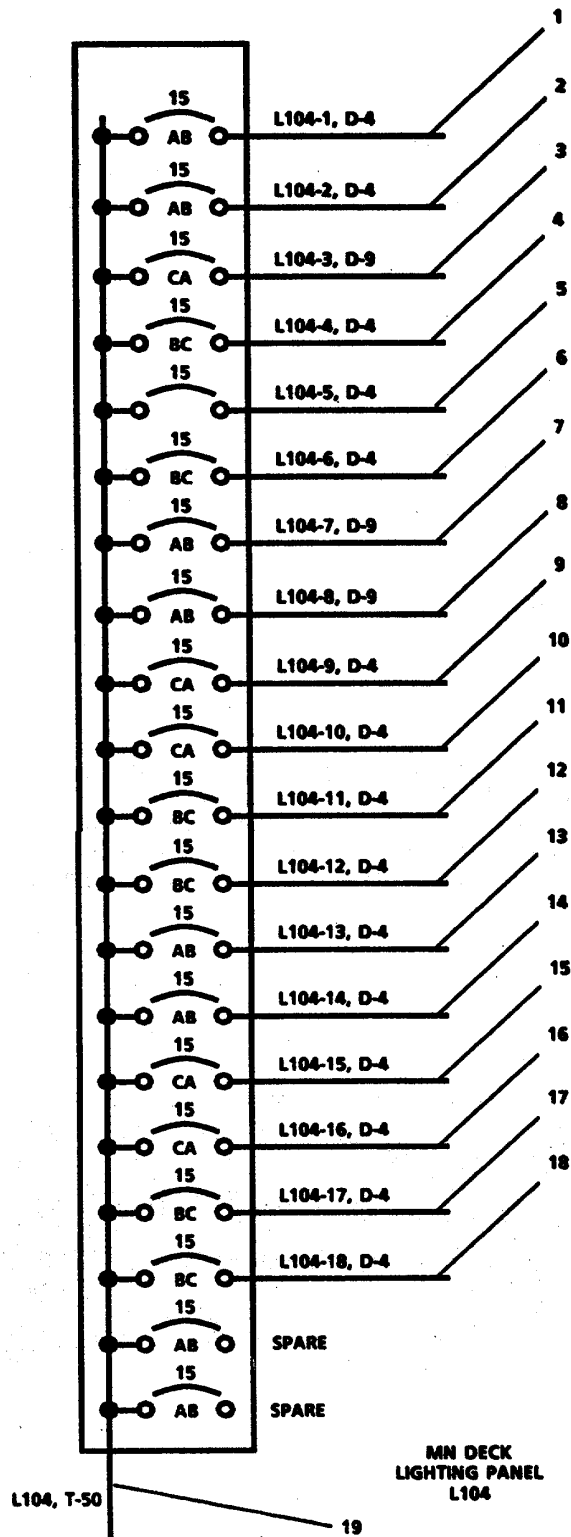

FIGURE 3-153. Power Distribution Panel L104.
**3-168. Repair Power Distribution.Panel L104. (Figure 3-153).**